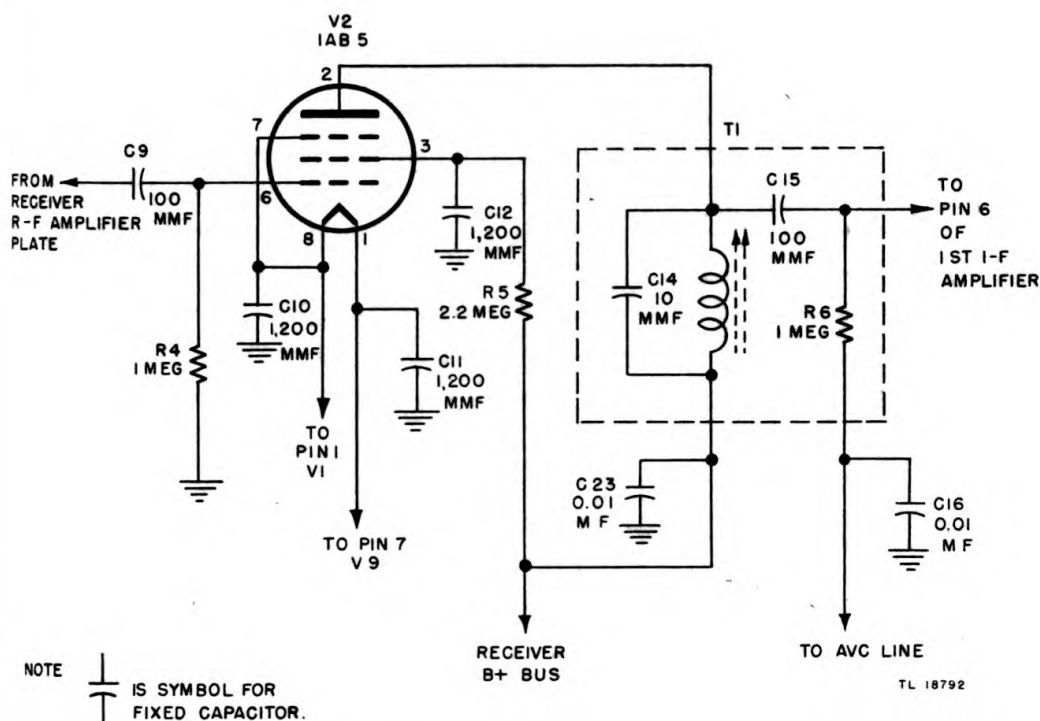

Figure 51. Receiver mixer.
them to the intermediate frequency (fig. 51). The voltage appearing between the grid and filament of tube V2 is developed across the grid resistor R4. The filament is held at r-f ground potential by capacitors C10 and C11.
a. The modulated i-f signal is coupled from the mixer to first i-f amplifier Tube JAN-1L4, V3, through capacitor C15 (fig. 51). The voltage developed across grid resistor R6 (fig. 51) is applied between grid and filament of tube V3 (fig. 52). The d-c grid return is through the a-v-c